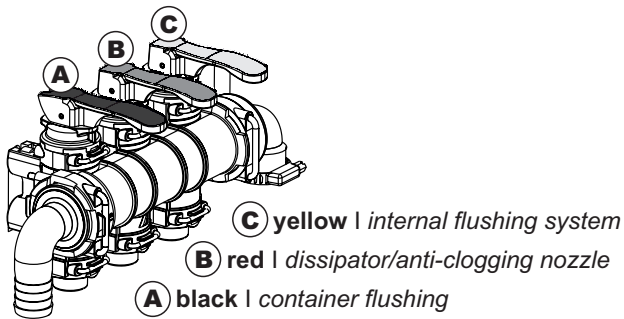

Fig. 5
- **WITH CLOSED LID**, pour about five liters of water and lift the **yellow lever (C, Fig. 5)**;
- Keeping the container **IN POSITION**, start the jet by lifting the **black lever (A, Fig. 5 + Fig. 6b)** to flush the container.
- Lift the **yellow lever C** again (Fig. 5) to pour the necessary amount of water for a correct premixing.
- Lower the **yellow lever C** (Fig. 5).
Lift all the three levers (A, B and C, Fig. 5): by doing so, all the nozzles will be started to flush the internal walls.
Now stop any water flow inside the Mixer by lowering **all the three levers (A, B and C, Fig. 5)**.